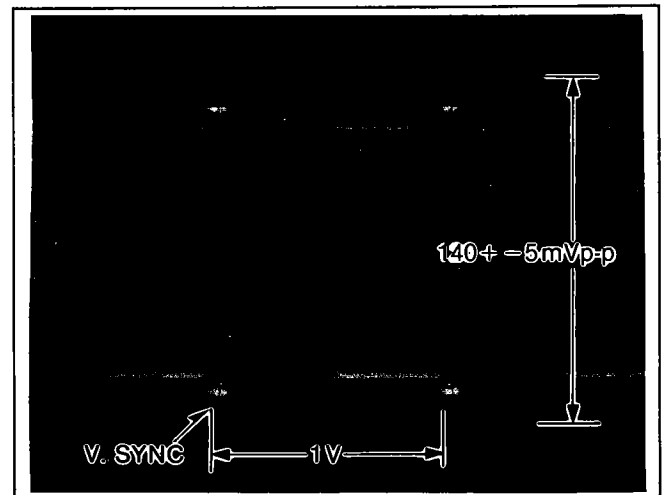

Figure E8
3. Adjust the VR3001 for 140 +/- 5mVp-p as shown in Figure E8